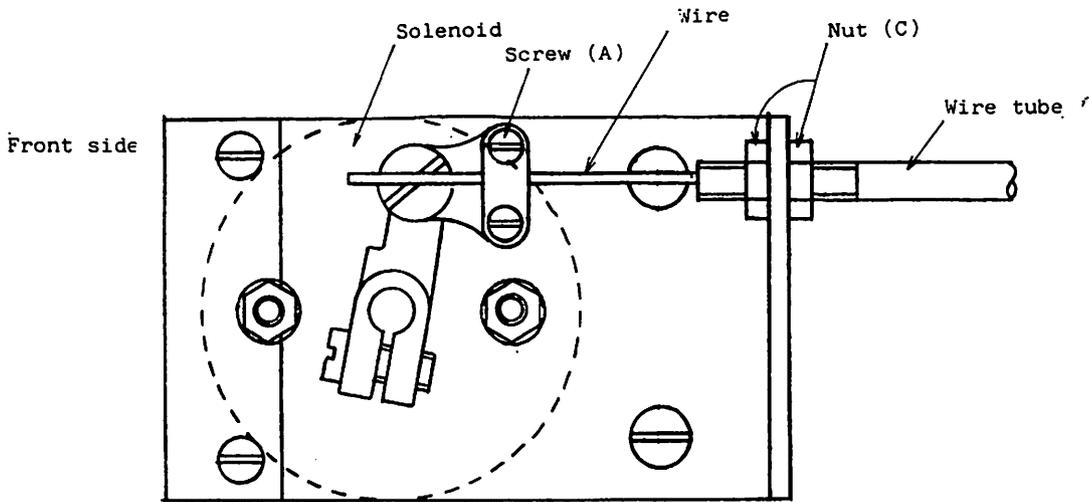

Fig. 11.14
- (2) To adjust, loosen the nut (C) shown in Fig. 11.14 and move the wire tube.